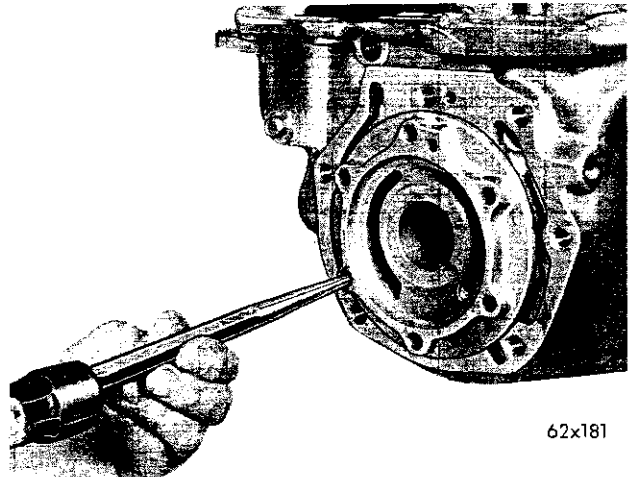

Fig. 77—Removing Overrunning Clutch Cam
(1) Remove set screw from the case below the clutch cam.
(2) Insert a punch through the pump body bolt holes and drive the cam from the case (Fig. 77).